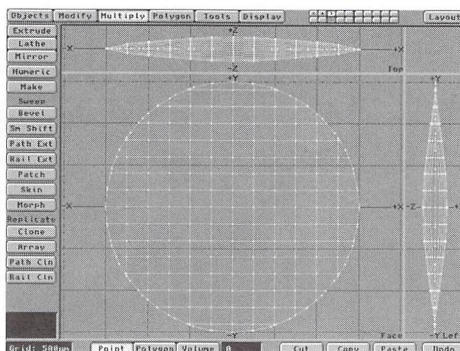

Figure 4
- Now, give the disc the surface name "glass." Then, using the **Mirror** tool under the **Multiply** menu, mirror the curved disc against itself so you have a two-sided curve (Figure 4). **Merge** points (m) to get rid of any duplicate points. **Save** this as "mag.glass."
Figure 4: The top sequence shows a normal cube metaformed into a sphere. The bottom sequence shows how beveling the edges of the cube first helps contain the metaform.
- Now **Metaform** the primitive again, making sure no polygons are selected. Notice how the edges of the box hold their shape and don't collapse inward as much as they did before. Metaform the object two more times and it should look like Figure 4.